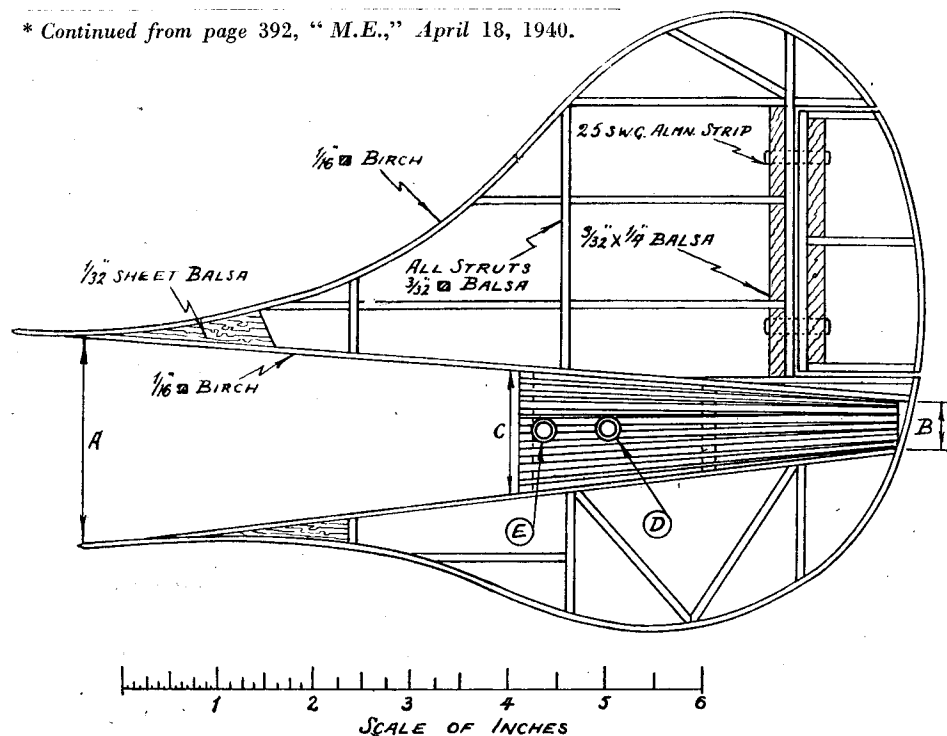
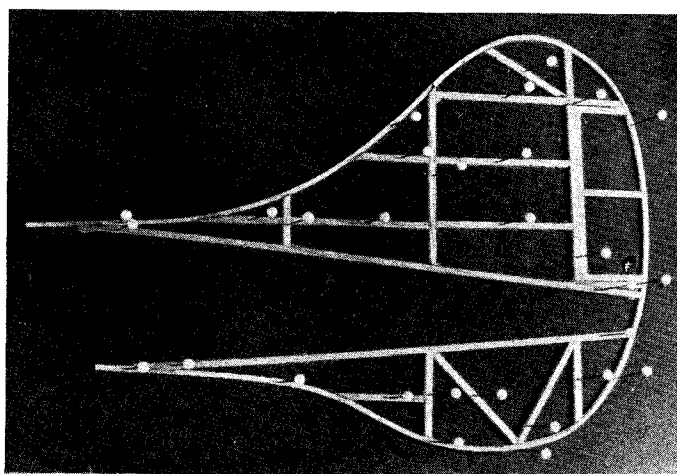
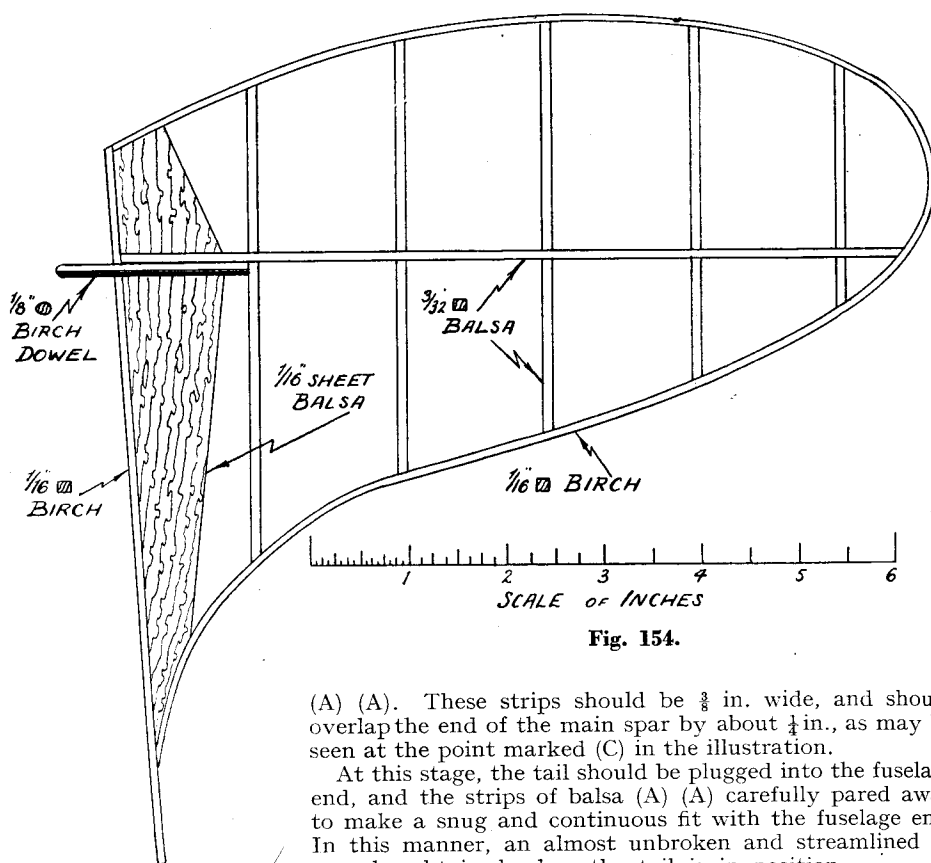

Fig. 151.
Fig. 152. First stage of rudder construction.
Fig. 154.
A start should be made on the tail fin. Measure the diameter of the extreme end of your fuselage (marked [B] in Fig. 151) and also the diameter at (C). Set these measurements out on a sheet of paper, and continue the
diverging lines to the point (A). This will form the basis for the drawing of the rudder and fin. Fig. 151 is exactly half scale, so that we may, from this, set out a full sized plan. The best method is to obtain a sheet of tracing paper large enough to cover Fig. 151, and, with a pencil, to draw a mesh of $\frac{1}{4}$ in. squares over the whole paper. This squared paper is now pinned down upon a board over Fig. 151. Next, take a sheet of drawing paper, and cover this in light pencil lines with a $\frac{1}{2}$ in. mesh. In this way the irregular outline of the fin and rudder at any point may be ascertained by noting the square, or portion of a square, at which the point lies, when it may be transferred to the equivalent $\frac{1}{2}$ in. square on the drawing paper. The scale will, of course, be automatically doubled in the process, and a fairly accurate outline of the full-sized fin obtained.
The outline being completed, the positions of the bracing struts and other components may be scaled off, and marked in. We should now have a drawing something like Fig. 151, but twice the size. I have roughly indicated the tail portion of the fuselage in this illustration, but you, of course, need not do this.
The framework of the rudder and fin is of $\frac{1}{16}$ in. square birch. This may be easily bent to shape in the steam from a kettle, after which the framework should be pinned down over the drawing in the manner indicated in Fig. 152. This picture shows the rudder in course of construction, and, in conjunction with Fig. 151, should render the building quite simple. Cut all the bracing struts accurately to size from the job, and pin them in place, flat to the board, while the cement is setting.
It will be seen that a small trimming fin is let into the rear of the rudder. Beyond cementing in the trimmer framework, do not worry about this at the moment. Build the rudder edge from one continuous length of birch; this may be cut through later to free the trimmer. Fig. 152 gives an exact idea of the work at this stage.
As the trimmer hinges on two small pieces of aluminium strip, it will be necessary to embed and cement these into the uprights of both rudder and trimmer (Fig. 151). The uprights should be carefully pierced with a broken safety razor blade before inserting the aluminium strips.
The diagram in Fig. 151 indicates the materials from which the rudder is made. Should the birch strip not
tubing which is cemented across the fuselage between stringers Nos. 4 and 5 on one side, and 12 and 13 on the other. The position of this tube is indicated at (D) in Fig. 151. The other tube shown in this drawing (marked [E]) does not pass right through the fuselage from one side to the other. It is really the end of a small piece of celluloid tube, about 3/16 in. long, which is cemented hard against the first former of the tail portion. On the other side of the fuselage there is a similar piece of tubing, and their purpose is to locate a bamboo peg which serves as an anchorage for the rear end of the rubber motor skein. Should celluloid tubing not be procurable, the tubes may be rolled from several wraps of gummed paper parcel tape,
Construction of the tail planes follows, generally, that used for the rudder. Fig. 154 is a half scale drawing of the right-hand plane. It will be remembered, of course, that planes are right and left handed; therefore, in preparing the drawings, one will be reversed. The outline will again be obtained by means of the squared paper system, and the positions of the struts marked out. As an aid to conformity in steaming the birch tail edging, it is advisable to bind, with cotton, two birch strips together, and to steam them to shape in one operation. This ensures
that each tail plane is identical in shape with the other. The drawing of the tail plane in Fig. 154 shows the primary steps in construction, and when the job has progressed to this point it is in an equivalent stage of manufacture to the rudder shown in Fig. 152. When removed from the building board several additions must be made.